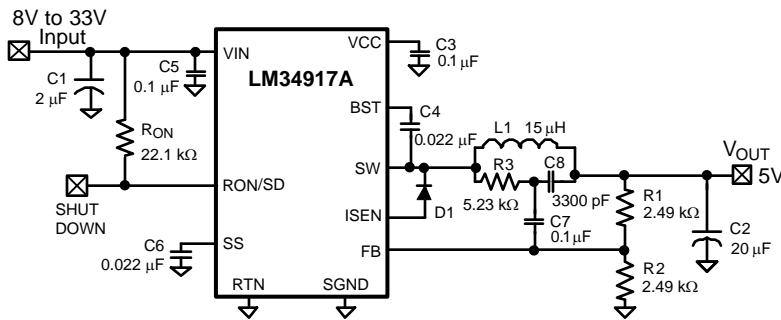
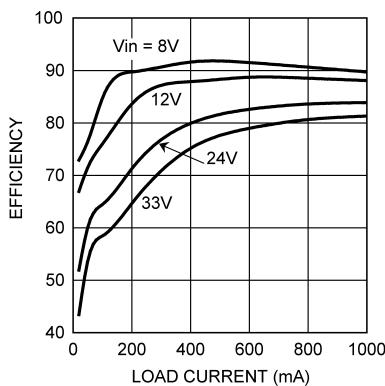
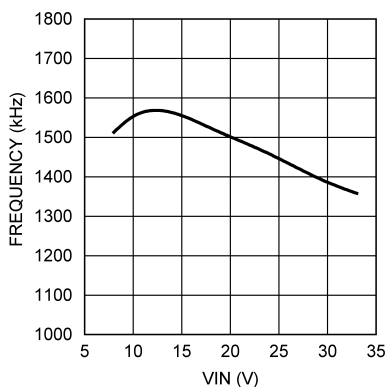
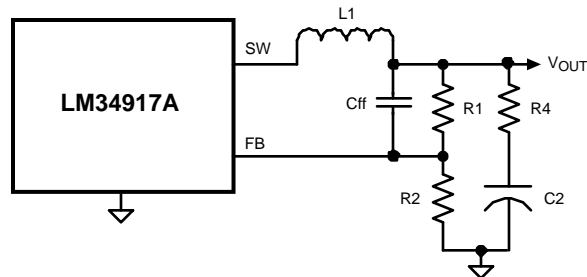

Figure 15. Example Circuit
Figure 16. Efficiency vs. Load Current and VIN (Circuit of Figure 15)
Figure 17. Frequency vs. VIN (Circuit of Figure 15)
Figure 18. Reduced Ripple Configuration
The final circuit is shown in Figure 15, and its performance is shown in Figure 16 and Figure 17. Current limit measured approximately 1.34A at  $V_{in} = 8V$ , and 1.27A at  $V_{in} = 33V$ . The output ripple amplitude measured 4 mVp-p at  $V_{in} = 8V$ , and 14 mVp-p at  $V_{in} = 33V$ .
**a) Alternate #1:** In Figure 18, R3, C7 and C8 are removed, and Cff and R4 are installed, resulting in a higher ripple level than the circuit of Figure 15. Ripple is created at VOUT by the inductor’s ripple current passing through R4. That ripple voltage is AC coupled to the FB pin through Cff, allowing the minimum ripple at VOUT to be set at 25 mVp-p. The minimum ripple current amplitude (IOR(min)) is calculated by re-arranging Equation 11 using tON(max) and VIN(min). The minimum value for R4 is calculated from:
**b) Alternate #2:** In Figure 19, R3, C7 and C8 are removed, and R4 is installed, resulting in a higher ripple level than the circuits of Figure 15 and Figure 18. Ripple is created at VOUT by the inductor’s ripple current passing through R4. That ripple voltage is coupled to the FB pin through the feedback resistors (R1, R2). Since the LM34917A requires a minimum of 25 mVp-p ripple at the FB pin, the ripple required at VOUT is higher than 25 mVp-p by the gain of the feedback resistors. The minimum ripple current (IOR(min)) is calculated by re-arranging Equation 11 using tON(max) and VIN(min). The minimum value for R4 is calculated from: